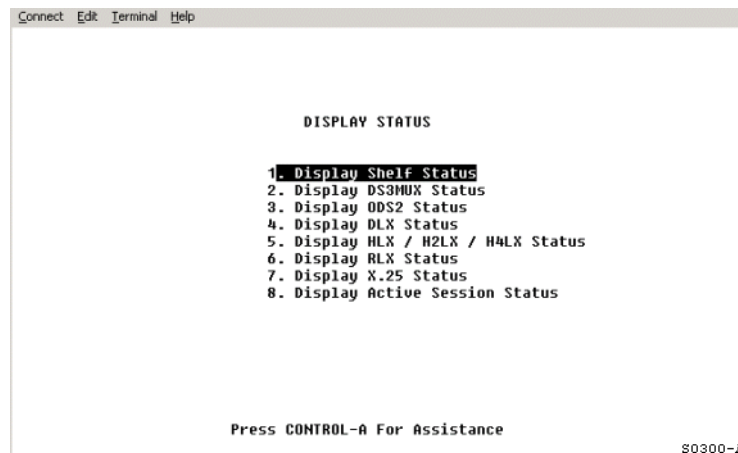

Figure 7. Display Status Menu
- 1 From the SCU Main Menu, use the arrow keys or number keys to select **2. Display Status**. Press **ENTER** if using the arrow keys. The Display Status menu appears, as shown in Figure 7.